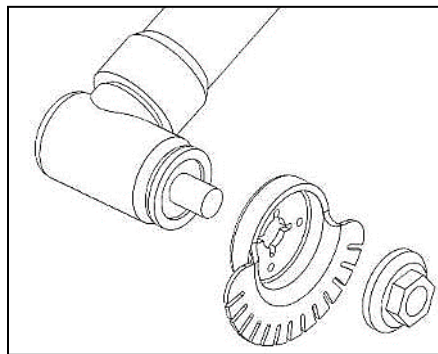

Figure 3. GFR-Disc/Blade Installation
- 3.1.3. Attach the appropriate GFR-Disc/Blade to the pneumatic oscillating saw by inserting the threaded spindle of the oscillating saw through the mounting hole in the GFR-Disc/Blade until it seats against the inner flange. Secure the GFR-Disc/Blade to the tool using the threaded outer flange nut. See **Figure 3**.